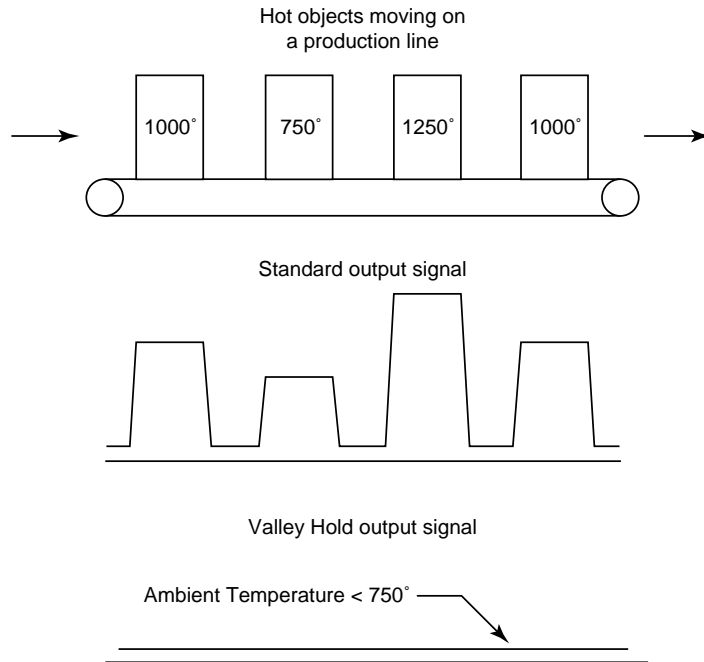

Figure 2-17: Valley Hold Example
With Valley Hold activated, the unit monitors the minimum temperature seen over the pretermined time interval. The algorithm may be described as being exactly the reverse of that for the Peak Hold, in that it monitors the lowest rather than the highest temperature seen. The duration time is changed by the ▲ (UP) and ▼ (DOWN) buttons. Figure 2-17 illustrates the Valley Hold output signal.